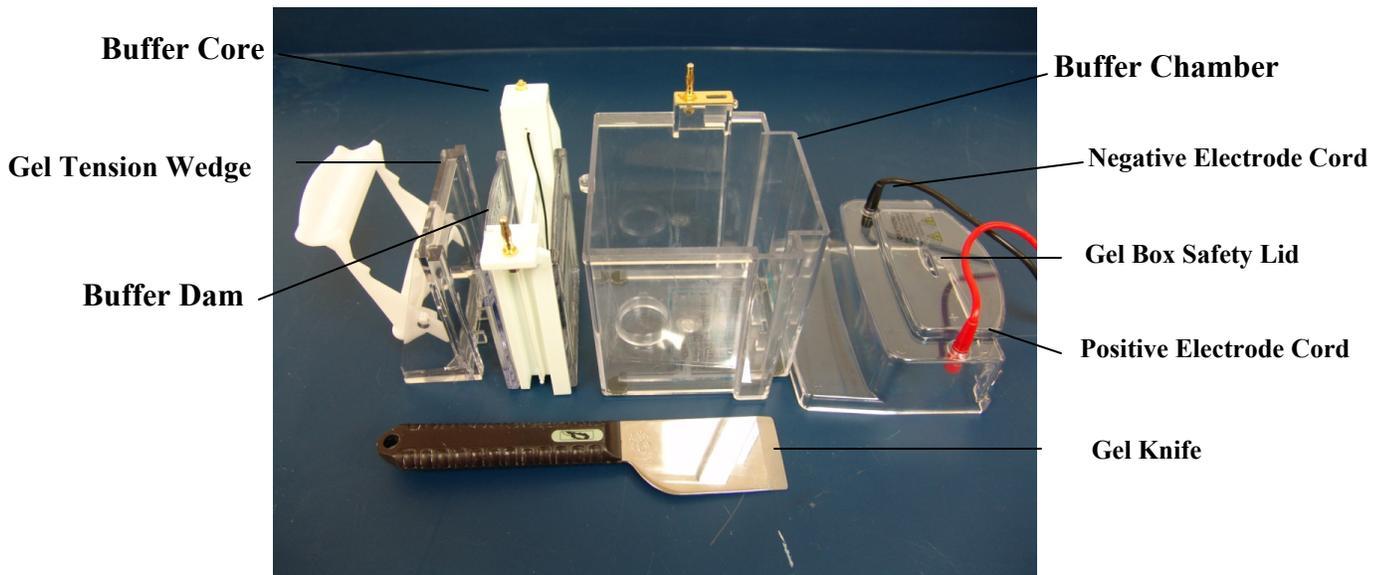

Figure 1: Gel Box Parts
- 9.1. Figure 1: Gel Box Parts